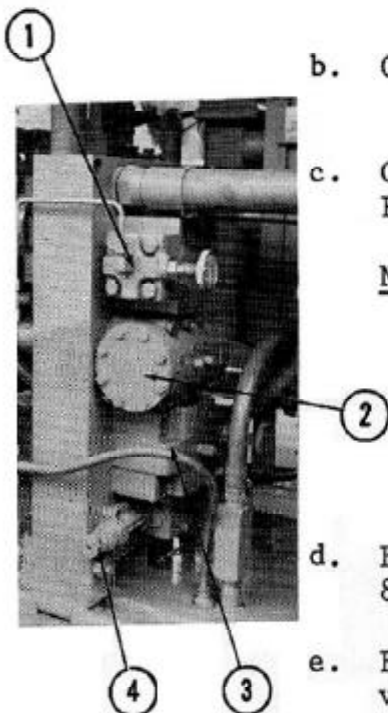

FIG. 17
- a. Drive circuit relief valve (Part 3, Fig. 17)
- e. Brake valve (Part 1, Fig. 17). Adjust this valve until the desired stopping time of the vibrator is obtained. To adjust, a pressure gage must be connected to the gage port of the brake valve setting the stopping pressure approximately 1200-1400 psi.
- f. Pilot or back pressure relief valve No. 4, Fig. 17, setting should be 350-400 psi.